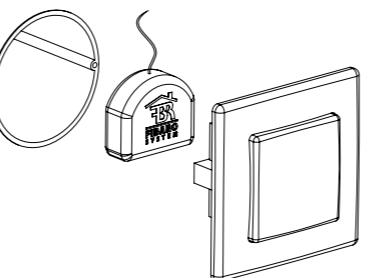

Fig. 3 Installation of FIBARO Roller Shutter in wall switch box.
- Arrange the antenna (tips presented below Fig. 3).